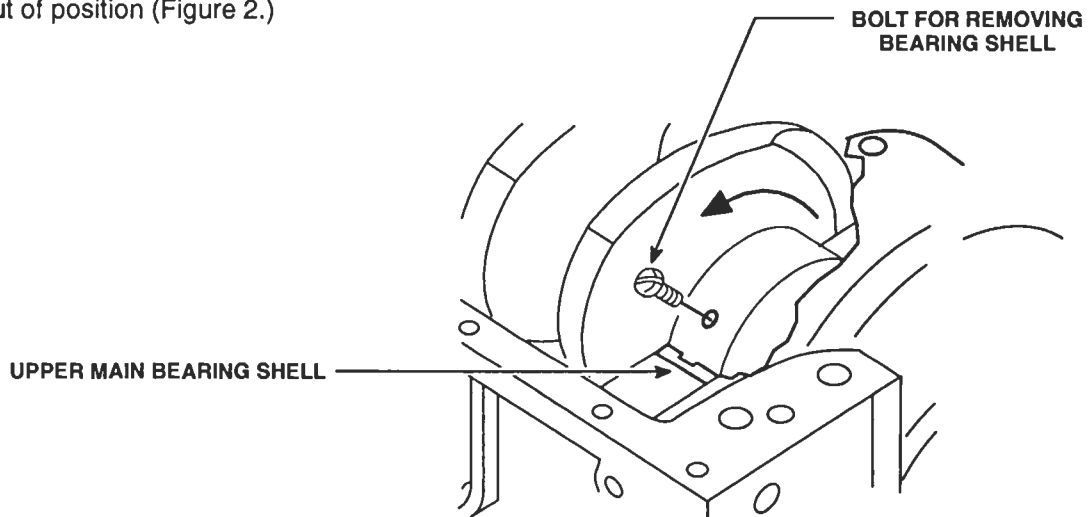

Figure 2. Removing Upper Main Bearing Shell (Except Rear Main)
- a. To remove all except the rear main bearing shell, insert a 1/4 x 1 inch bolt with a 1/2 inch diameter and 1/16 inch thick head (made from a standard bolt) into the crankshaft journal oil hole. Then, revolve the shaft to the right (clockwise) and roll the bearing shell out of position (Figure 2.)